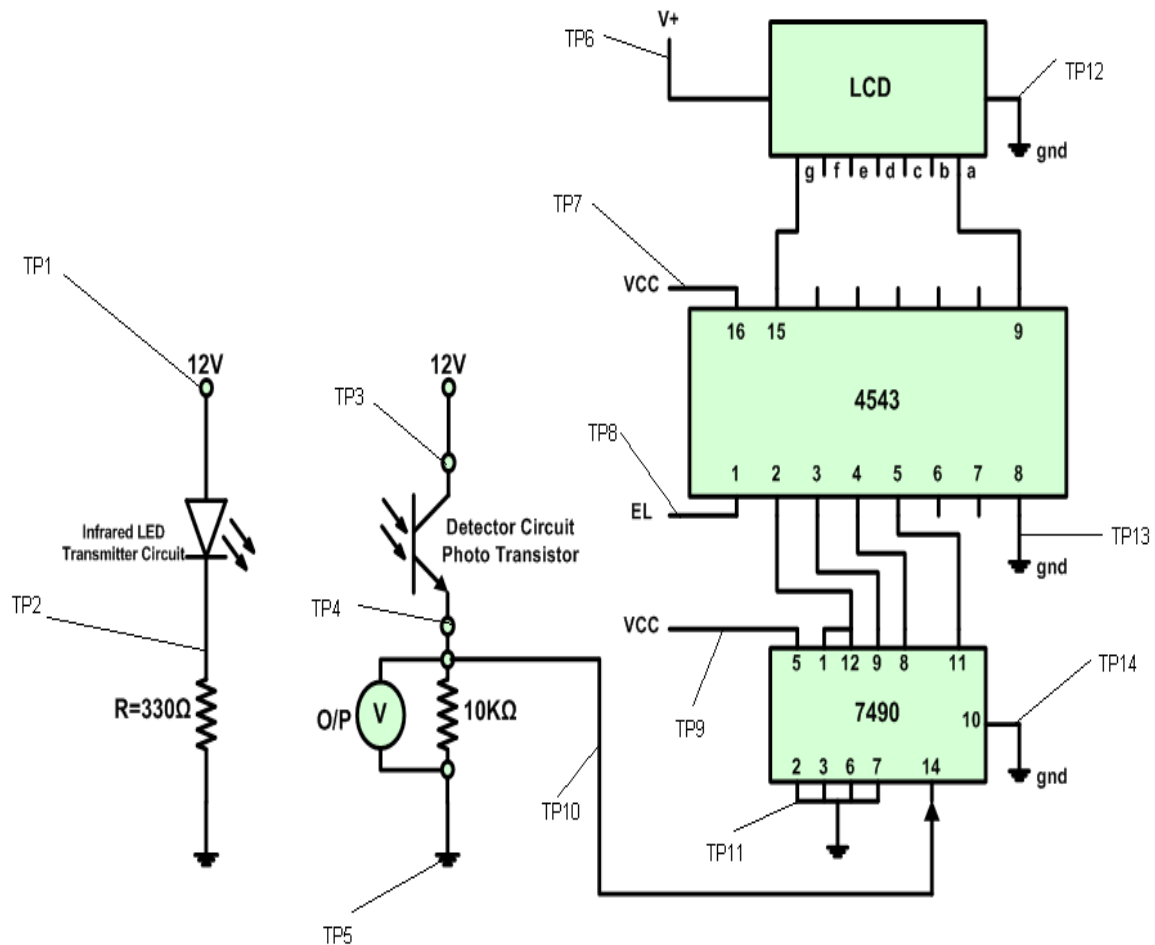

Figure 14.2
1. Assemble the ckt in fully working condition as shown in figure 14.2.